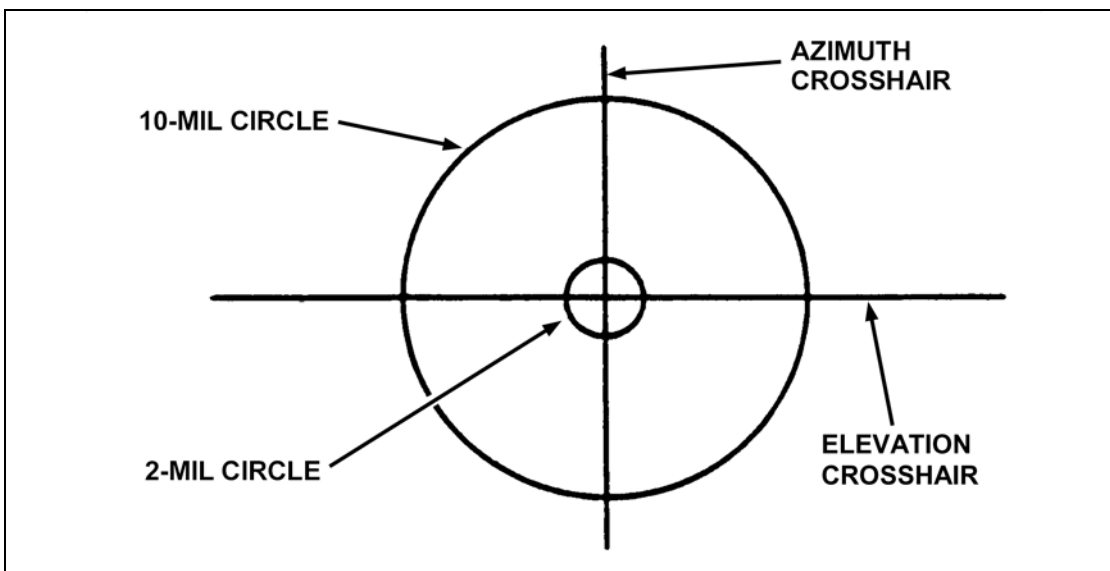

Figure B-1. Reticle for boresight telescope NSN 4933-00-867-6607.
Boresighting aligns the ISU OR IBAS and weapon systems to a common point of aim and simplifies the task of zeroing the turret weapon systems (Figure B-1, page B-2). The crew must ensure that boresight kits meet the accuracy standards in this appendix before using them to boresight the weapon systems. They must turn in to battalion maintenance any kits that fail the accuracy test. They perform accuracy tests during semiannual servicing of vehicles, or whenever they detect problems during zeroing. They can swap telescopes and adapters to form complete kits that meet the standards, if needed. Specific boresighting instructions follow:
a. **Boresight Telescope.** Figure B-1 shows the reticle of the telescope. The reticle has crosshairs, a 2-mil circle, and a 10-mil circle. The azimuth crosshair is the vertical line; the elevation crosshair is the horizontal line. Use the 2-mil circle to test the accuracy of the 25-mm boresight kit.